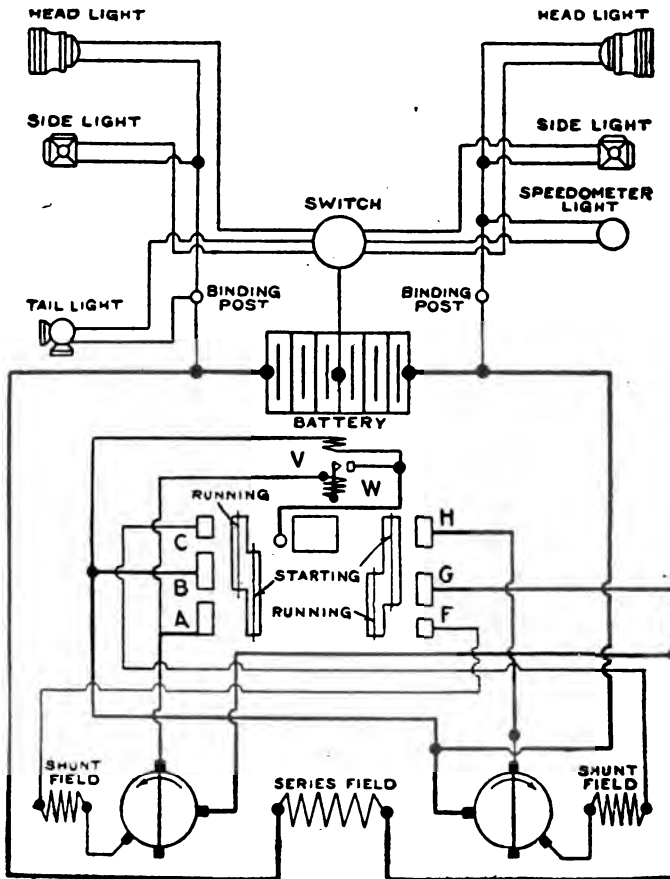

Fig. 343. Wiring Diagram for Wagner Twelve-Volt Single-Unit Two-Wire System (Early Model)
**Wiring Diagram.** *Single-Unit Type.* The left side of the lower half of the diagram, Fig. 343, illustrates the connections when the unit is being used as a starter, as indicated by the arrow showing the direction of rotation of the armature. Those at the right are the running connections, the armature then rotating in the reverse direction and generating current to charge the battery.
the switch connect the generator for charging. Fig. 345 shows the details of this switch: *A*, *B*, and *C* are the contacts on the starting side, while *H*, *G*, and *F* are the running-position contacts, as shown in Fig. 343. The segments *E* and *L* on the drum contact with